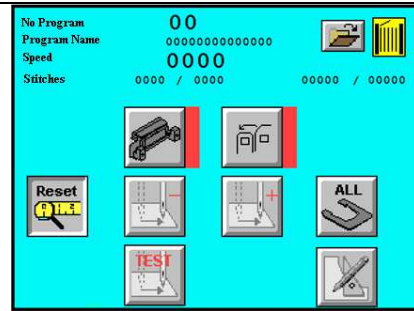

Fig.7
13.1.2 Deactivate the “AUTOMATIC” button , press the pedal until the screen as fig. 7 appears.